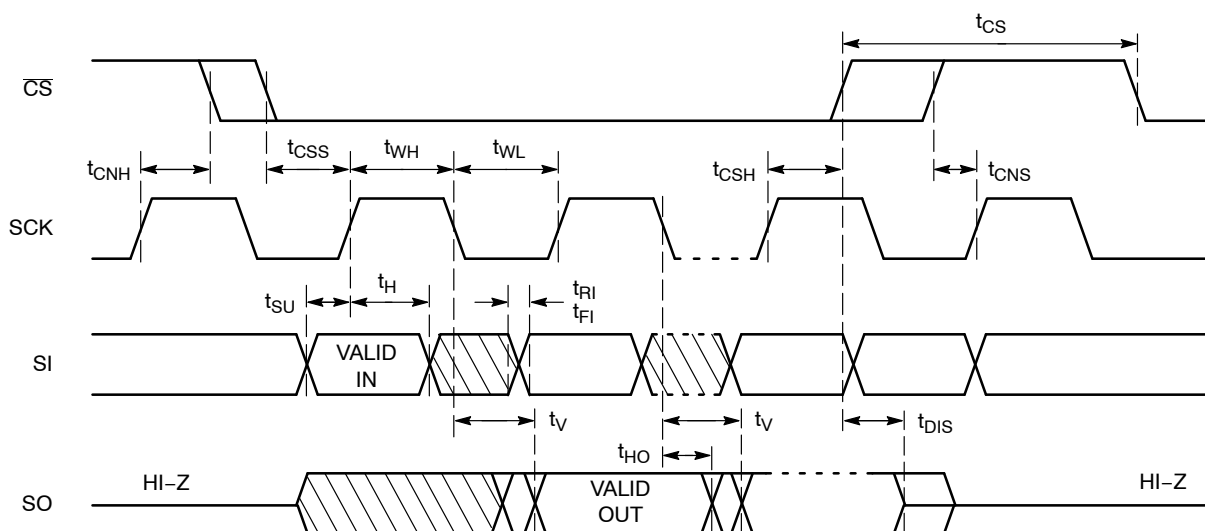

Figure 2. Synchronous Data Timing
9. All Chip Select (CS) timing parameters are defined relative to the positive clock edge (Figure 2). t_{CSH} timing specification is valid for die revision D and higher. The die revision D is identified by letter "D" or a dedicated marking code on top of the package. For previous product revision (Rev.C) the t_{CSH} is defined relative to the negative clock edge.
After a high to low transition on the \overline{CS} input pin, the CAT25128 will accept any one of the six instruction op-codes listed in Table 10 and will ignore all other possible 8-bit combinations. The communication protocol follows the timing from Figure 2.